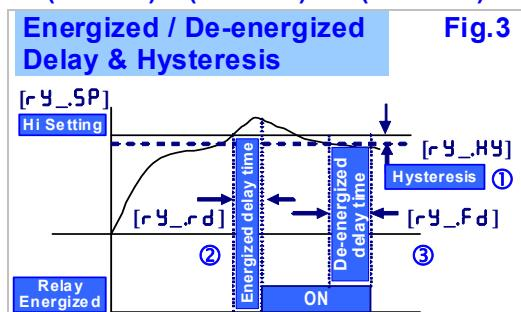

Fig.3
■ Hysteresis [rY_HY] (Fig.3-①)
■ Relay energized delay [rY_rd] (Fig.3-②)
■ Relay de-energized delay [rY_Fd] (Fig.3-③)